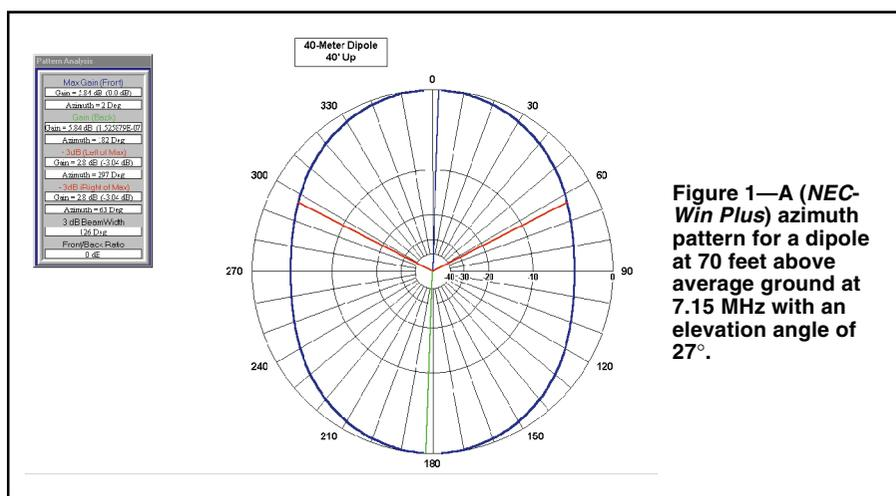
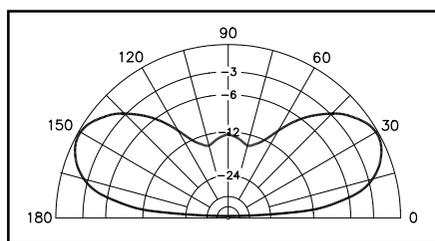
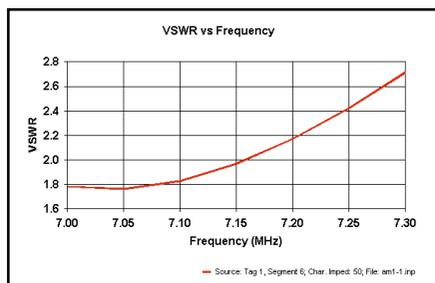

Figure 1—A (*NEC-Win Plus*) azimuth pattern for a dipole at 70 feet above average ground at 7.15 MHz with an elevation angle of 27°.
Figure 2—An (*EZNEC*) elevation pattern for a dipole at 70 feet above average ground at 7.15 MHz with an azimuth angle of 0 degrees.
Figure 3—A (*NEC-Win Plus*) SWR graph for a 40-meter dipole at 70 feet above average ground.
**A**ntenna modeling has become a popular engineering and amateur activity. You can see the results in almost any issue of *QST*. Among the modeling products you might encounter are azimuth patterns, such as Figure 1, or elevation patterns, such as Figure 2, or even an SWR graph, such as shown in Figure 3. Almost every ham knows that antenna-modeling software is available at reasonable prices. So only two important questions remain: